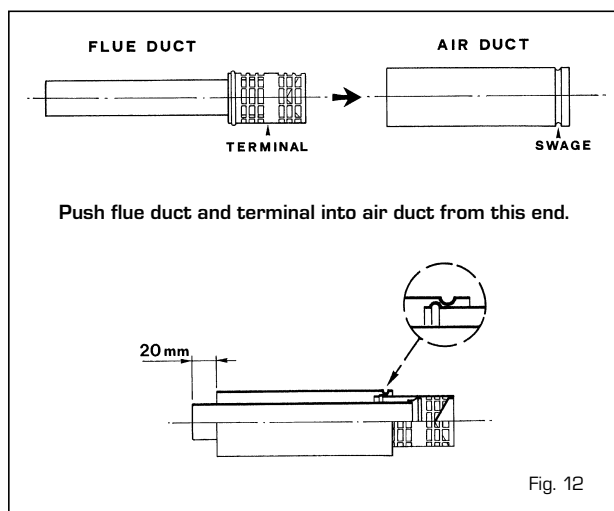

Fig. 12
- Refer to fig. 12. Hold the air duct at the plain end, and slide the flue duct (small duct) inside the air duct (terminal first) until the external swage of the terminal stops against the internal swage of the air duct, then mark off the length to be cut which leaves 20 mm protruding flue duct.
- Push the flue duct assembly into the air duct until the external swaged ring on the flue terminal stops against the internal swage on the air duct (fig. 12).